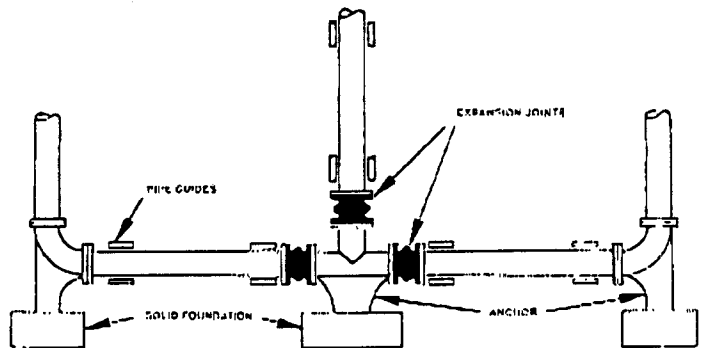

Figure 5B: Typical Piping Layout Utilizing Expansion Joints And The Proper Use Of Anchors In Branch Locations
A.3. Branch Connection Anchors. Figure 5B is another illustration of the proper anchoring that should be provided in a line with a branch connection. The anchor shown at the tee and elbow connections must be designed to withstand both the thrust and any other forces imposed on the system at these points. Again emphasis is placed on the relative location of the joints, their anchoring points and the pipe guides.